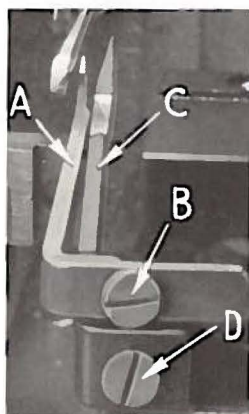

Fig. 6
Set rear needle guard (A, Fig. 6) as high as possible, without interfering with either lower looper or movement of lower knife holder, but still in position to deflect needle or needles forward .002-.004 inch. Screw (B) is used to set rear needle guard. Make sure there is no interference between rear needle guard and lower looper.
Assemble front needle guard (C, Fig. 6). When lower looper is springing needle off back guard, set front needle guard as close as possible to needle without touching. Screw (D) is used to adjust and set front needle guard. After this setting make sure